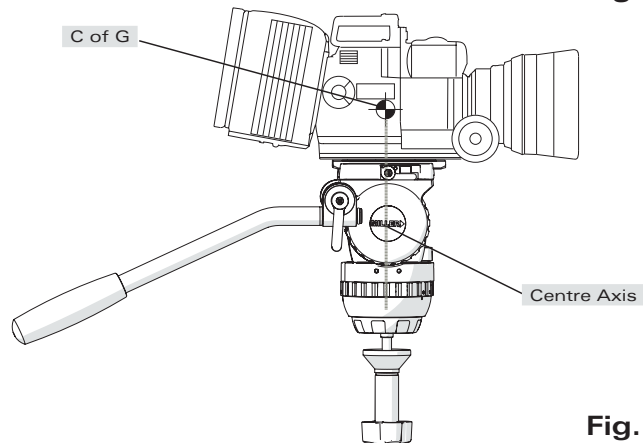

Fig. 3b
2.4 Untighten TILT LOCK, slide the CAMERA PLATE such that the camera's C of G is directly above the centre axis of the Fluid Head (fig. 3b), camera should be balanced (if not slide camera backward or forward). Once balanced tighten the SLIDE LOCK LEVER (anti-clockwise)³ and tighten TILT LOCK.